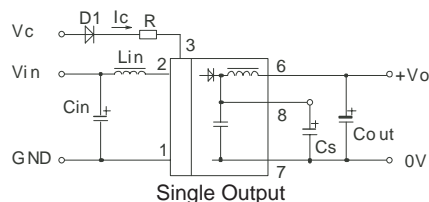

Figure 1
- All of the VWRBS2-SIP Series have been tested according to the following recommended testing circuit before leaving the factory. This series should be tested under load(Figure 1). If you want to further decrease the input/output ripple, you can increase capacitance properly or choose capacitors with low ESR. However, the capacitance should not be too high(Table 2).
- Remote on/off control (see figure 1)
OFF: With a 3-10mA input current (I_c) to pin 3, output will be disabled. Under no conditions should input current (I_c) exceed 20mA. The Value of R in Figure 1 can be derived as follows: